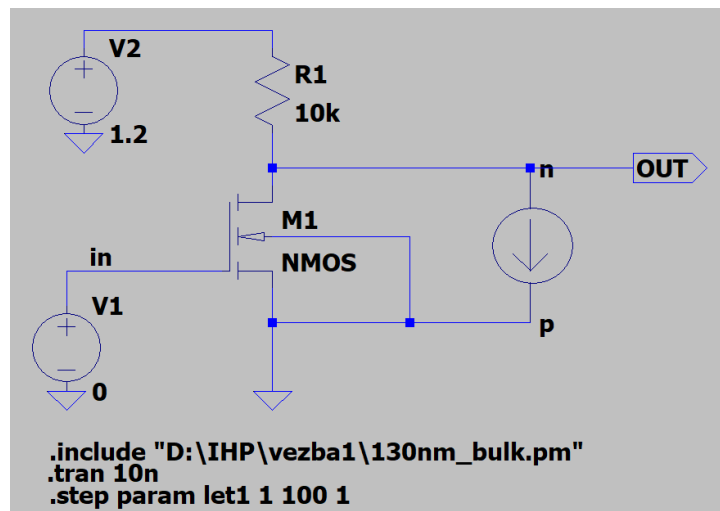

Fig. 16. Adding of **.step param** directive
19. In order to analyze the behavior of the circuit for different LET values, we will perform a parametric analysis. The SPICE command **.STEP PARAM** is used for this purpose, as shown in Fig. 16. In this case, the LET value will change from 1 to 100 with step 10.